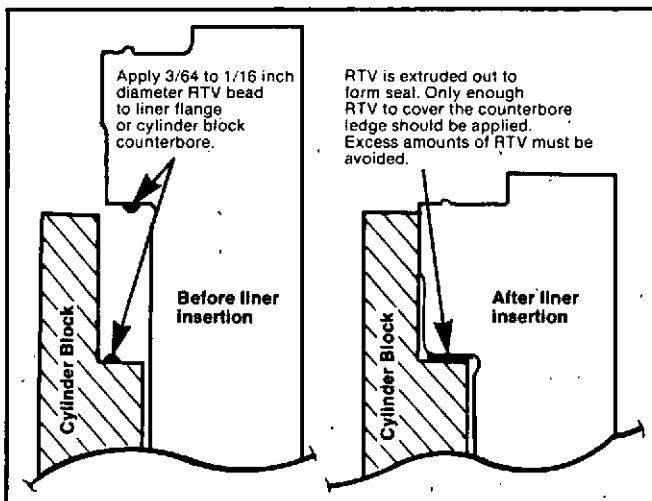

Fig. 14-8. Apply The Sealant To These Locations.
3. Apply a bead of Cummins Sealant, Part No. 3801048, onto the counterbore or the cylinder liner flange as shown in Fig. 14-8. The diameter of the bead must be at least $\frac{3}{64}$ inch and not more than $\frac{1}{16}$ inch. The liner must be installed within five minutes after the sealant has been applied.